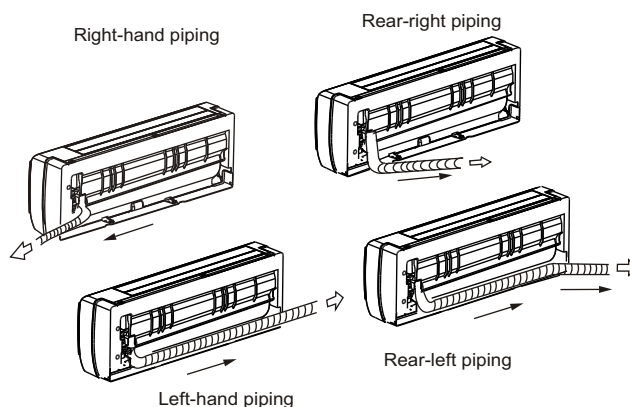

Fig.9
- For the rear-right-hand and rear-left-hand piping, install the piping as shown in Fig.9. Bend the connective pipe to be laid at 43mm height or less from the wall.